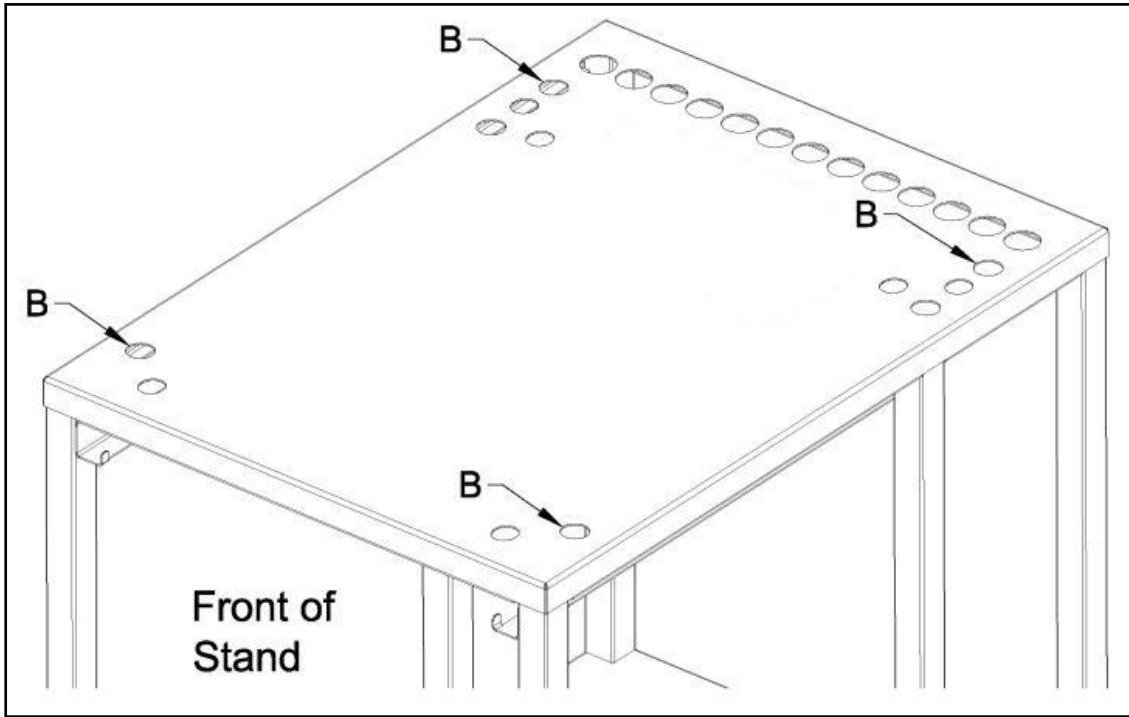

Figure 3
4. Align steamer so that mounting bolts come up through holes marked “B” in Figure 3 (Page 4)